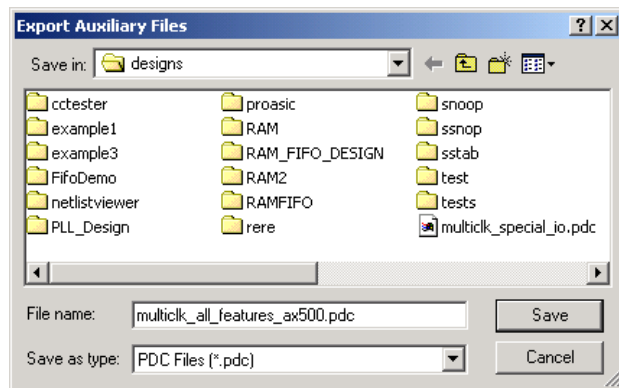

Figure 2-33. Exporting Your PDC File
1. **From the File Menu, select *Export*, and click *Auxiliary Files. . .* from the *Export* sub-menu.** The Export Auxiliary Files dialog box appears, as shown in Figure 2-33